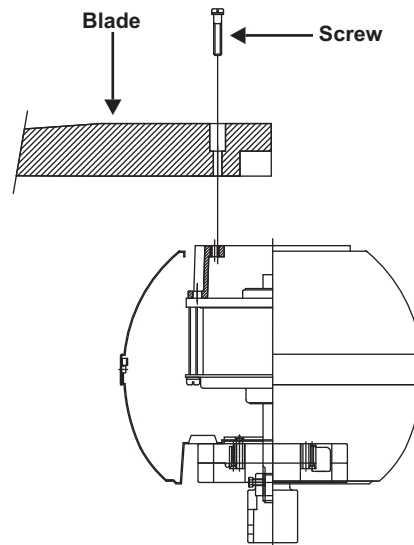

Figure 1
1. Fasten blade to motor using the screws supplied. (Fig. 1)